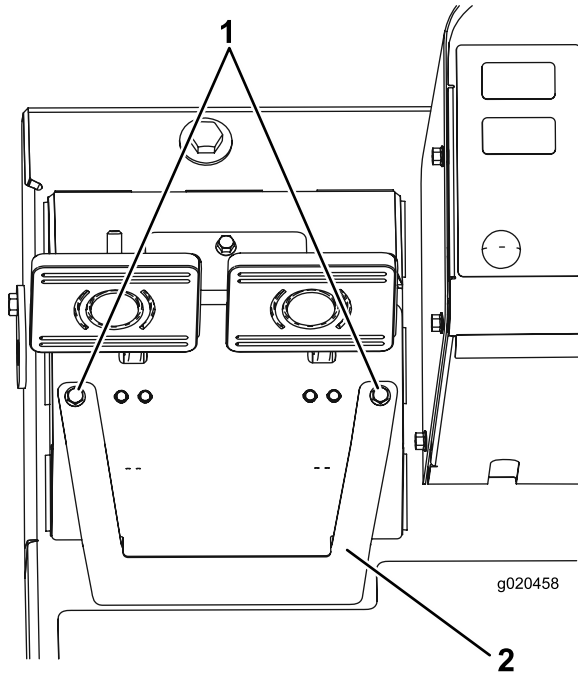

Figure 69
- A. Loosen the 2 mounting screws and remove the brake-adjustment cover (Figure 69).